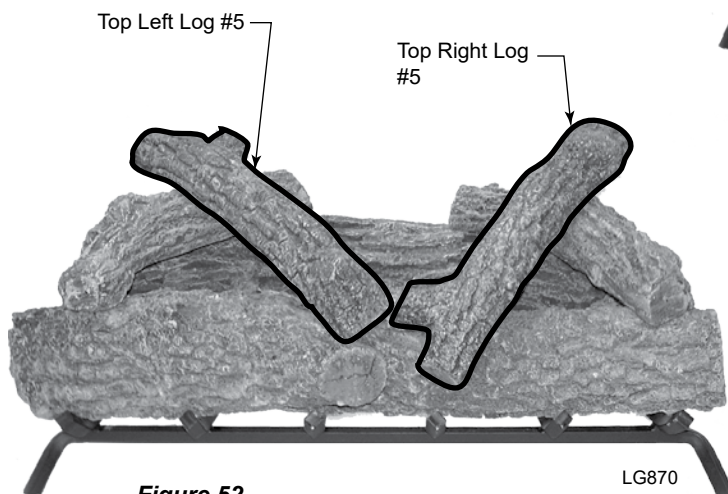

**Figure 50 -
2. Place Front Log #1 on front of grate. *Figure 50*